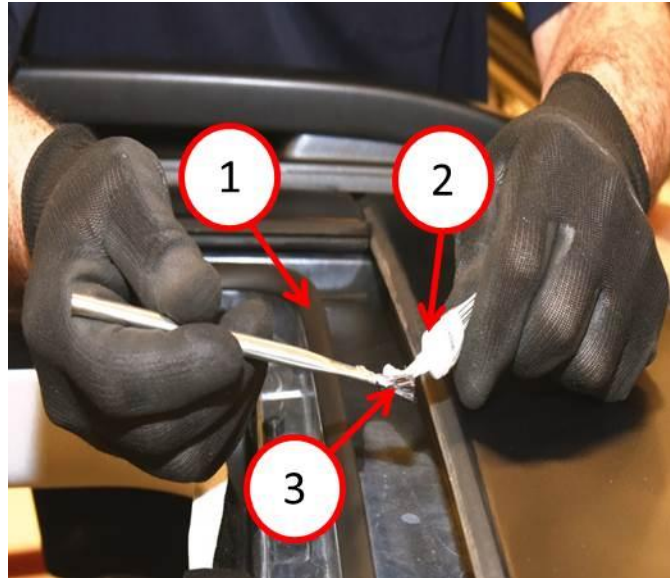

Fig. 2 Weather Strip Lubricant
9. Using a clean cloth, wipe off primary seal to clean the surface (Fig. 2).
10. Using a brush or equivalent, apply weather strip lubricant (P/N 04773427) evenly across the entire primary seal surface (Fig. 2).